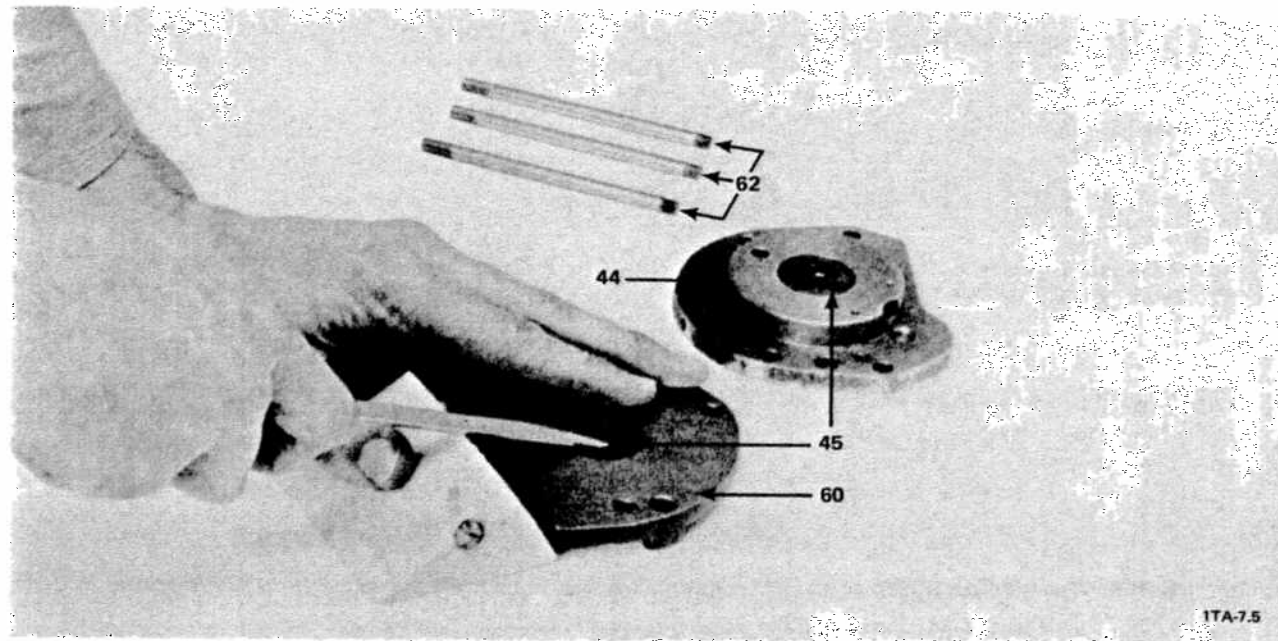

Figure 5-12. Removing the Radial Shaft Seal From the End Plates (D2A Pump Model Shown)
Remove the radial shaft seal (45) from the rear end plate (60) as follows (see Figure 5-12).
- Using the wooden block as a fulcrum and the screwdriver as a lever, pry the shaft seal (45) out of the end plate.
D-9 Unscrew and remove the threaded studs (62) from the front end plate (44). (See Figure 5-12.)